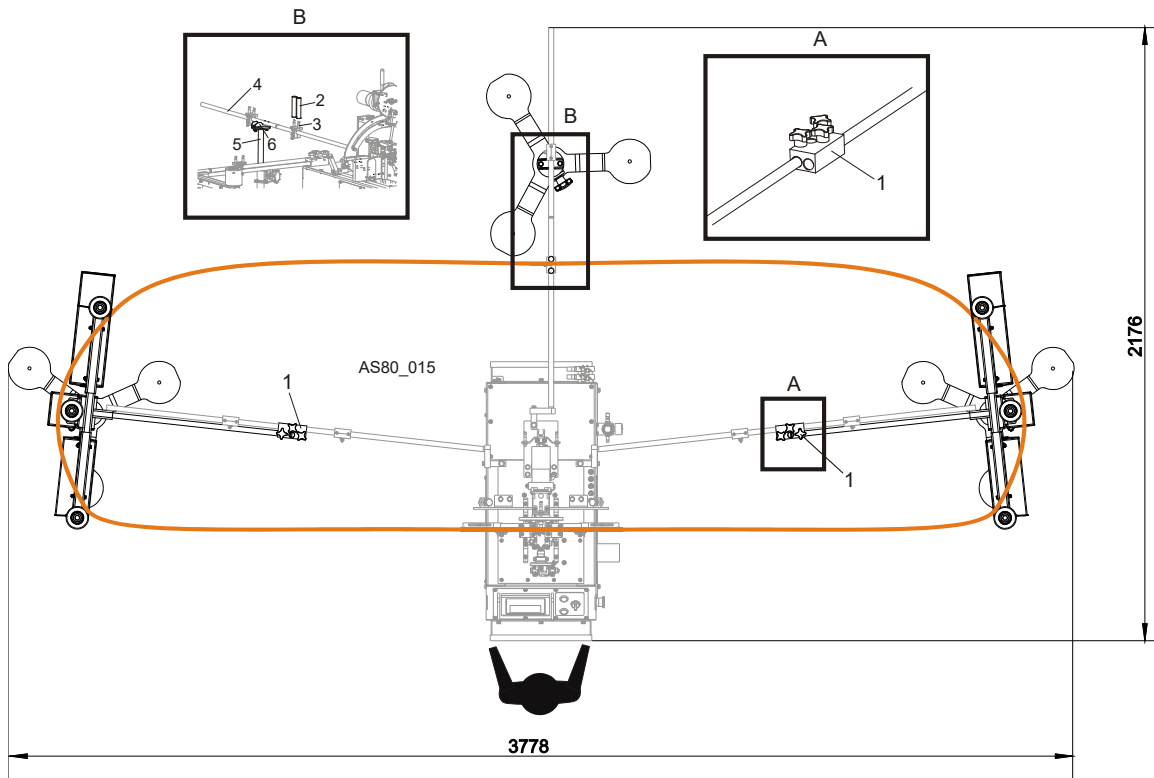

FIG. 2-2
**See Figure 2-2.**
1. Position the optional blade supports on proper sides of the toothsetter. Using the connectors (1), connect the right and left blade supports with the toothsetter arms.
3. Install the bushings (2) on the guide assembly (3) - see Detail B in the figure below. Adjust the height of the third blade support (5) and rest the toothsetter arm (4) on this support.